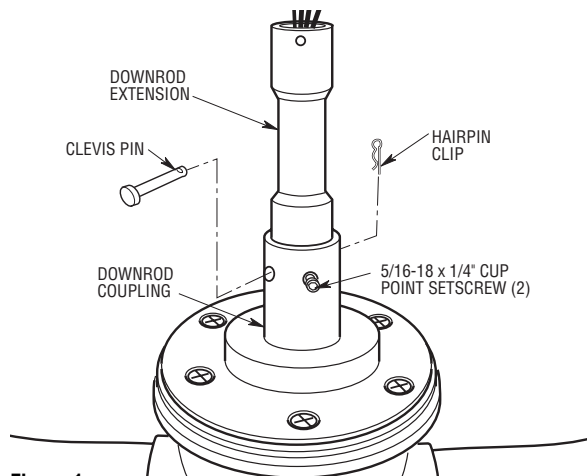

Figure 1
1. Loosely install both 5/16-18 x 1/4" cup point setscrews (supplied) into the downrod coupling. Separate, untwist and unkink the three 80" motor leads and support wire. Route the motor lead wires and support wire through the downrod extension. Align the clevis pin holes in the downrod extension with the holes in the downrod coupling. Install the clevis pin and secure with the hairpin clip (Figure 1). The clevis pin must go through the holes in the downrod coupling and the holes in the downrod extension. Be sure to push the straight leg of the hairpin clip through the hole near the end of the clevis pin until the curved portion of the hairpin clip snaps around the clevis pin. The hairpin clip must be properly installed to prevent the clevis pin from working loose. Pull on the downrod extension to make sure the clevis pin is properly installed.
It is critical that the clevis pin in the downrod coupling is properly installed and the setscrews securely tightened. Failure to verify that the pin and setscrews are properly installed (as shown in Figure 1) could result in the fan falling.